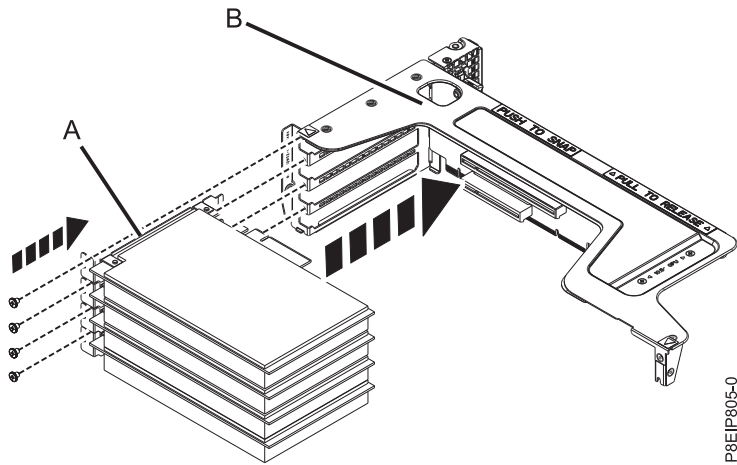

Figure 56. Inserting a PCIe adapter into the riser
- b. Plug the adapter (A) into the proper slot in the PCIe adapter riser (B) as shown in Figure 56 on page 45.